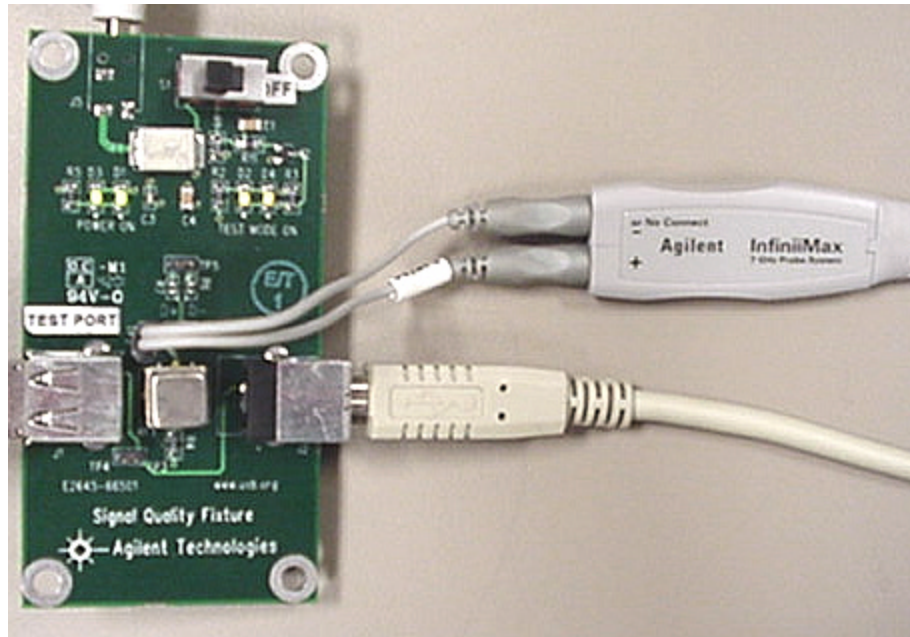

Figure 2. Differential Probe Connection to Device Test Board
6. Attach the differential probe to TP2 of the test fixture, using the header adapter, as shown in Figure 2.